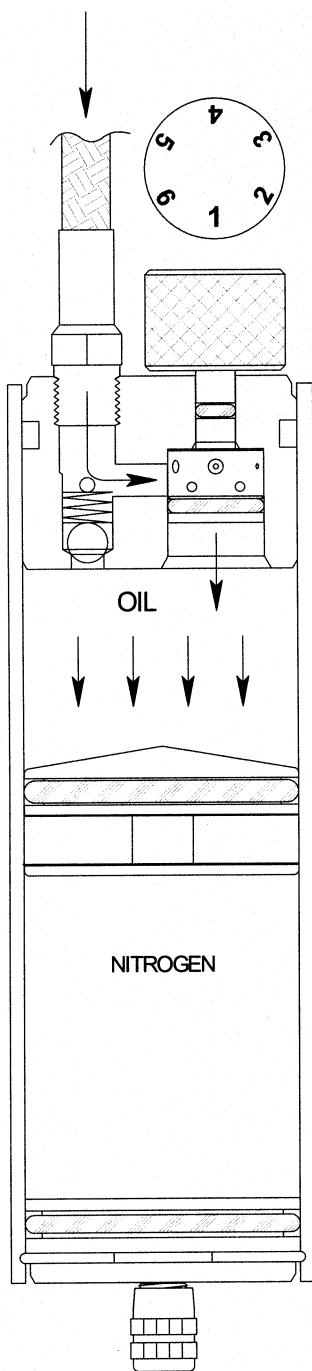

Figure 1
In the compression mode of the shock absorber, fluid is forced into the remote reservoir in direct proportion to the area of the shaft entering the shock body. As fluid enters the reservoir, it must pass through the compression adjuster. Inside the compression adjuster is the CD drum. The CD drum has (6) settings, numbered (1-6), with number one setting (the largest hole) being full soft and number six (the smallest hole) being full firm. As fluid is forced through the CD drum (Figure 1), it is metered through one of the preassigned orifices in the drum; it then enters the reservoir body, moving the floating piston. The floating piston is designed to separate the fluid and nitrogen, eliminating any chance of aeration.